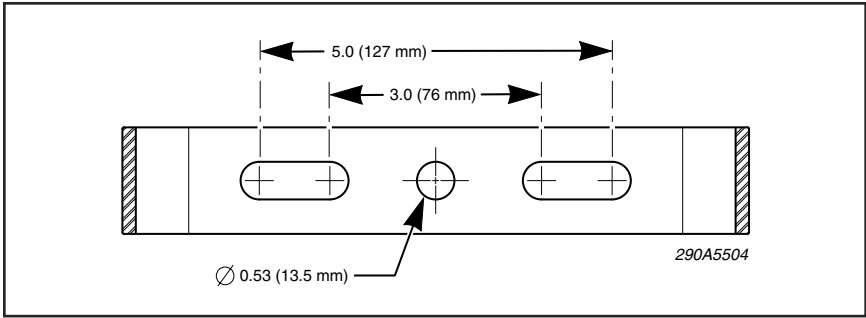

Figure 1.
3. Using the mounting bracket as a template, scribe drill position marks on the mounting surface. See Figure 1 for mounting hole locations and dimensions.